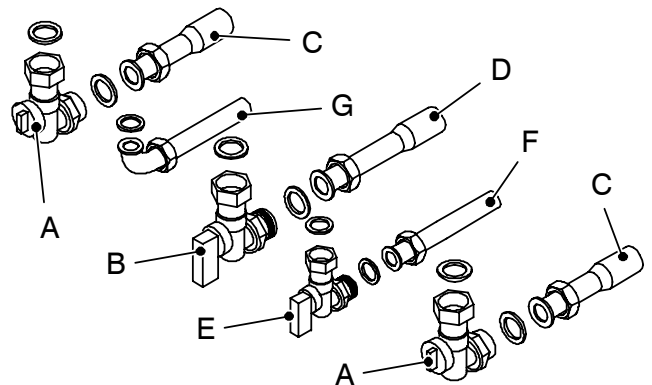

Fig. 6.3
- 4 Fix the c.h. valves A and gas cock B (¾") to the boiler using the ¾" gaskets (Fig. 6.3)